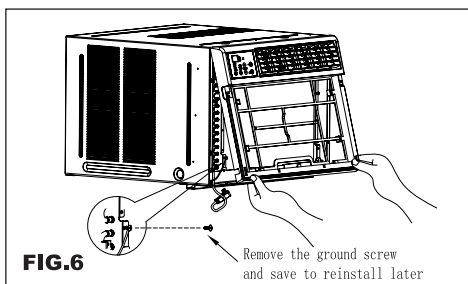

FIG.6
- Gently lift front off unit and place to one side. Remove the ground screw and save to reinstall later (See FIG.6) .